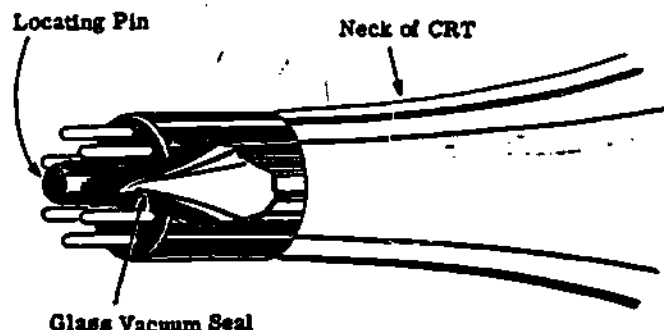

Figure 1-24. Construction of a Cathode-Ray Tube Base
2. Carefully break off locating pin from tube base. See figure 1-24.